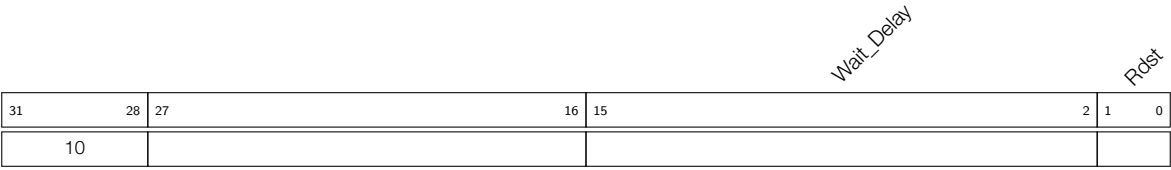

Figure 26-21. Instruction Type - TSENS
- Operand** **Description** - see Figure 26-21